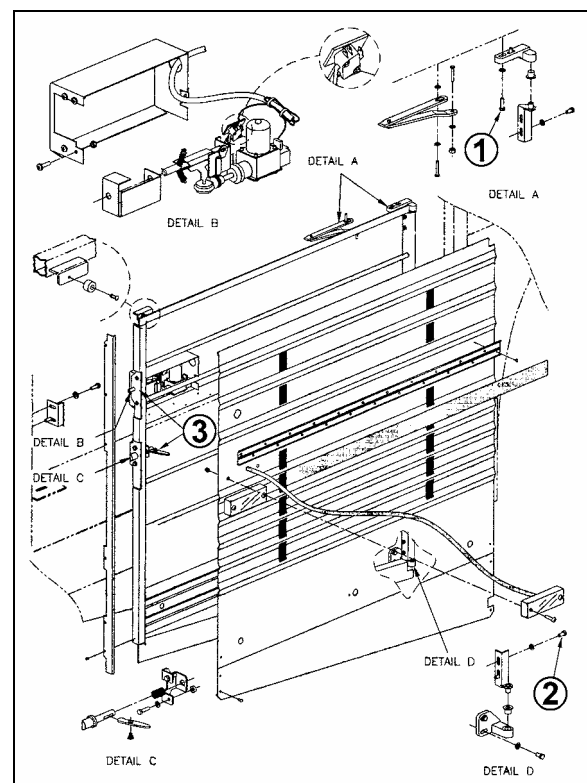

FIGURE 82: ENGINE COMPARTMENT R.H. SIDE DOOR¹⁸⁶³⁵
1. Loosen the bolts, (1, Fig. 82) holding the hinge to the vehicle structure to shift the door "IN or OUT" and "UP or DOWN".
2. Loosening the bolts (2, Fig. 82) allows the door to be shifted "LEFT or RIGHT" and "UP or DOWN".
To adjust the latch mechanism (3, Fig. 82) and the striker pin: